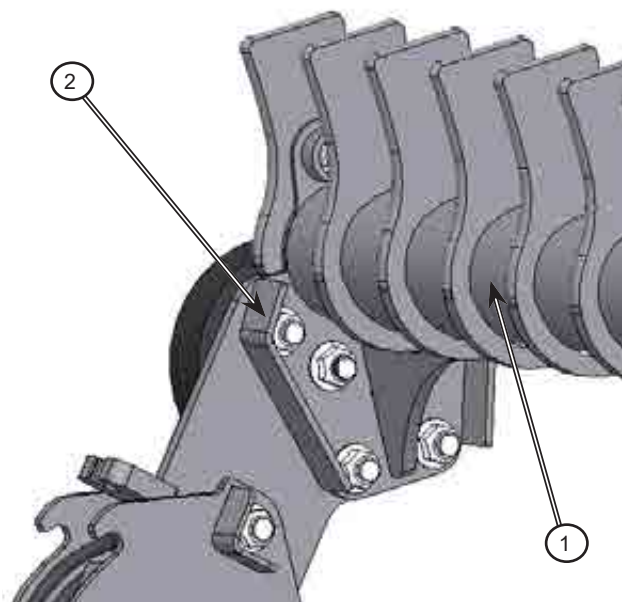

Figure 6.32: Remove the bolts
- Remove the bolts fastening the bat (1) to the right or left reel bat end plate (2); see *Figure 6.32*.